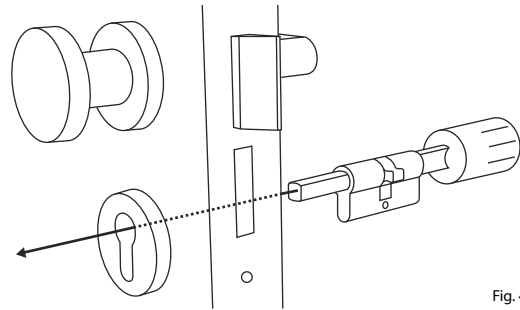

Fig. 4
- ④ From inner side the door, push the cylinder into the mortise lock (Fig. 4).